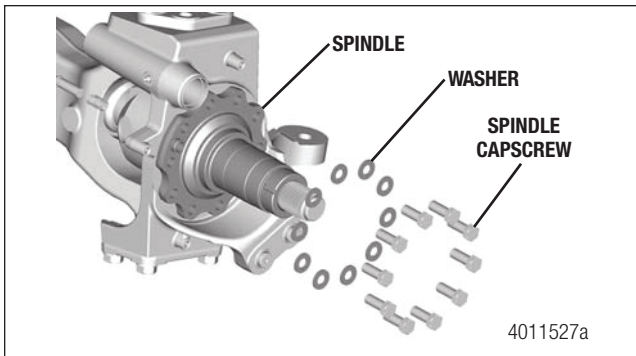

Figure 5.23
- Remove the cap screws that secure the spindle to the steering knuckle. Figure 5.23.